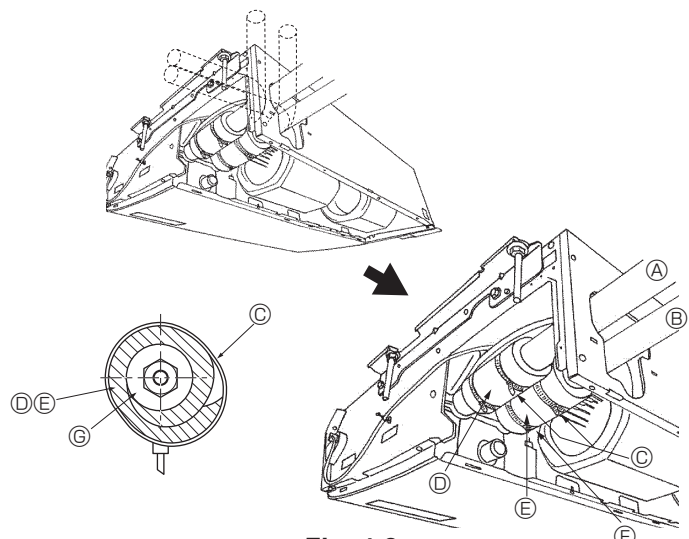

Fig. 4-2
④ Apply refrigerating machine oil over the entire flare seat surface.
4.2. Unidade interior (Fig. 4-2)